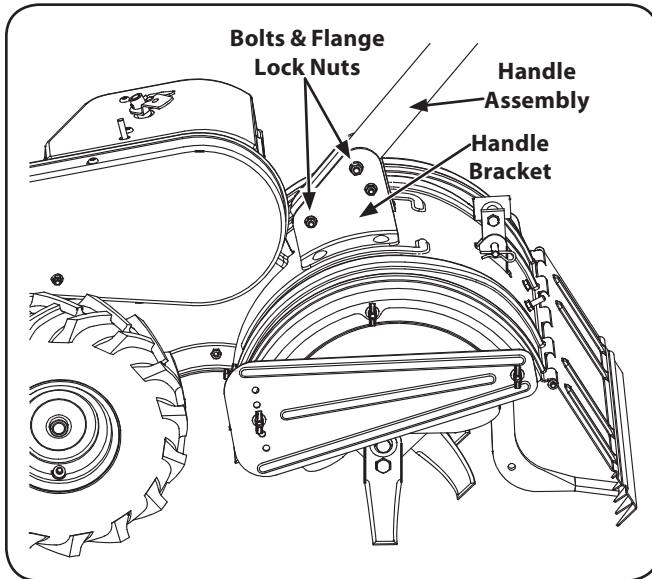

Figure 3-2
1. Remove the top two bolts and flange lock nuts from the handle mounting brackets, but do not remove the bottom bolt and nut. See Fig. 3-2.